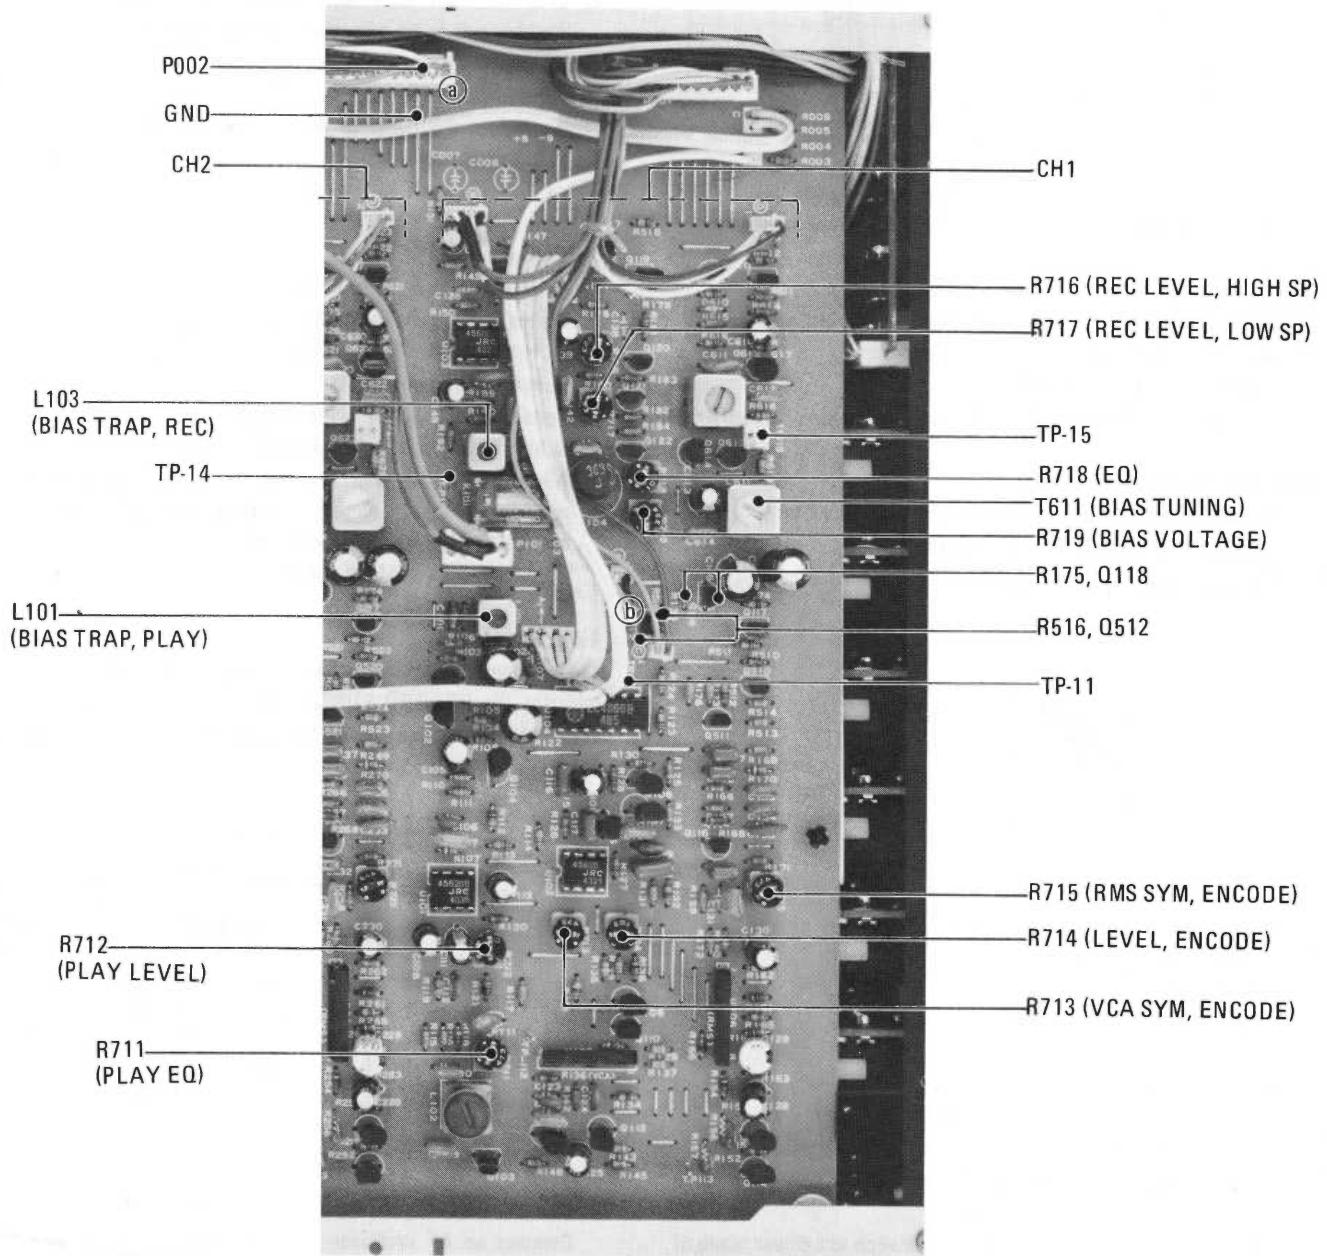

Fig. 4-6-1
- 2) Playback a test tape MTT-150, 400 Hz, and adjust the trim pot R712 for -7 dBV (447 mV) reading on the level meter. (Refer to Fig. 4-6-1) Under this condition, the VU meter will deflect 3